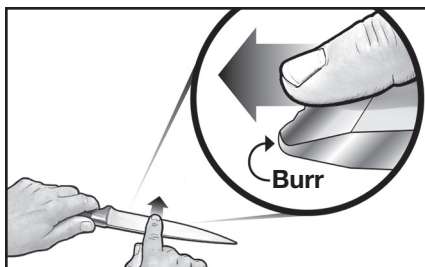
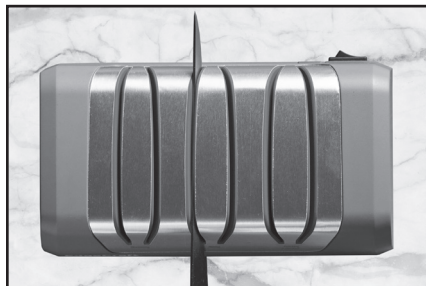

Figure 7. When you create a distinct burr along the blade edge, it can be detected by sliding finger across and away from the edge. Caution! See text.
Figure 9. Honing in Stage 2 (left slot). European and American style blade.
To confirm the presence of a burr (see Figure 7) move your forefinger carefully across the edge in the direction shown. Do not move your finger along the edge – to avoid cutting your finger. If the last pull was in the right slot, the burr will appear only on the right side of the blade as you normally hold it and vice versa. The burr, when present, feels like a rough and bent extension of the edge; the opposite side of the edge feels very smooth by comparison. If there is no burr continue sharpening in Stage 1, alternating left and right slots until a full burr develops. When a burr is present along the entire blade length proceed as below to Stage 3.
Stage 2 will create the primary facet of 20 degrees on the European/American knife. Turn on the power switch. Start by slipping the blade between the left angle guide of Stage 2 (Figure 9) and the knife holding spring while pulling the blade toward you and simultaneously moving the blade downward in the slot until it engages the rotating diamond coated disk. You will hear it contact the disk. Insert the blade as close as possible to the bolster or handle. If the blade is curved lift the handle slightly as you sharpen near the tip of the knife. Sharpen the entire blade length. Then repeat with one full length pull in the right slot of Stage 2. Always make pairs of pulls, alternating pulls in the left and right slots of that Stage. Each pull should be about 4-5 seconds for 5" long blade and slightly slower for longer blades. Make about five (5) pairs of pulls, then check for a burr along the entire edge length. (See page 8 and Figure 7). Continue with more alternating pairs of pulls until the presence of a burr is confirmed. More pulls will be needed if the knife is very dull.